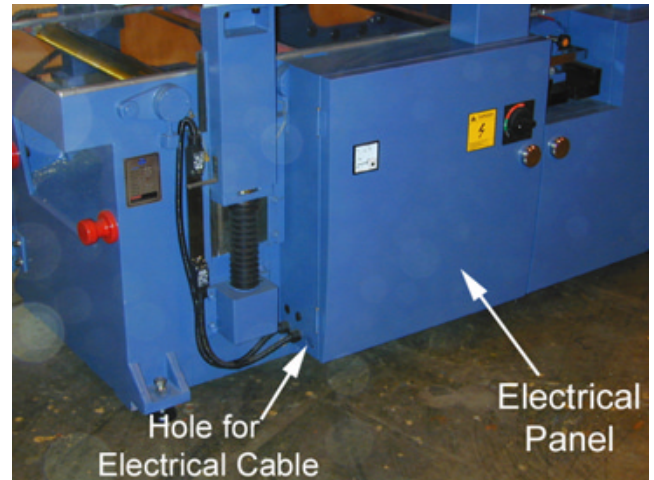

Figure 7
1. The electrical connections are made in the *electrical panel* at the lower left side of the machine. See **Figure 7**.